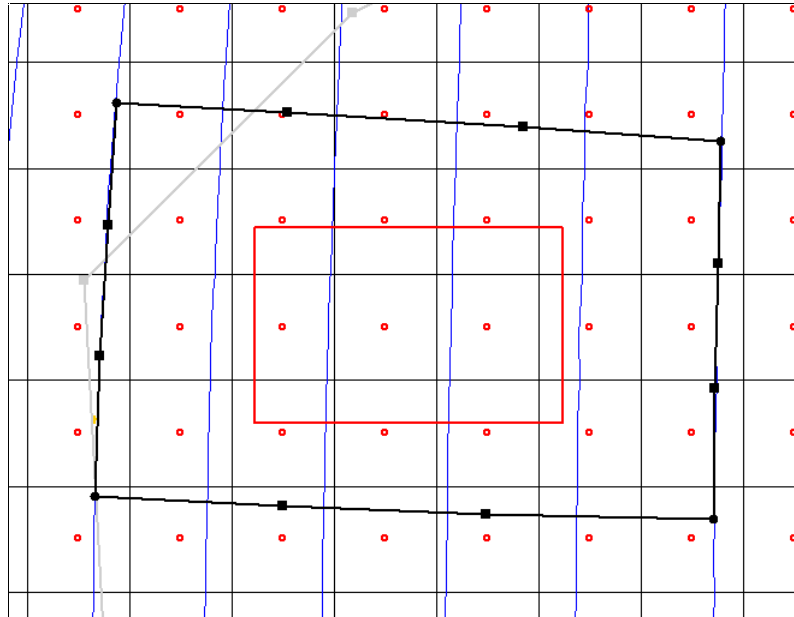

Figure 13.2 Arcs to be Created on Boundary of Local Model.
2. Create four arcs, two parallel to the contours, and two perpendicular to the contours as shown in Figure 13.2. Double click on the corners to end each arc.